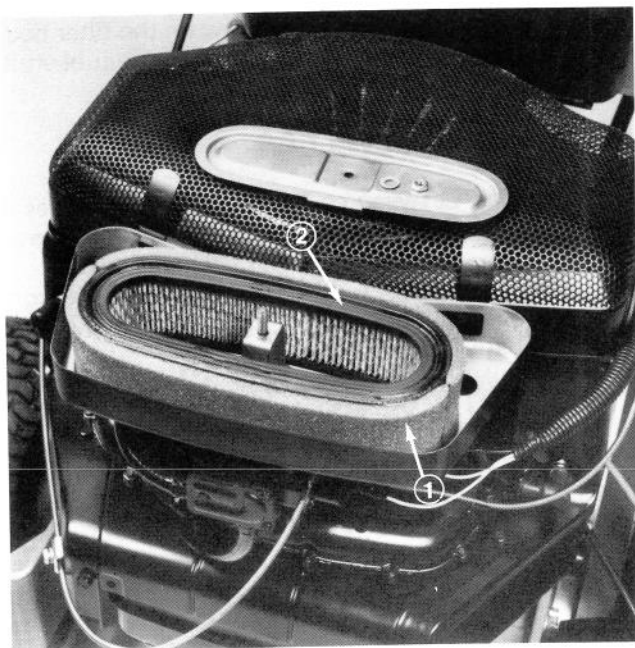

Figure 17
2. Remove foam pre-cleaner by sliding it off the paper cartridge (Fig. 17).